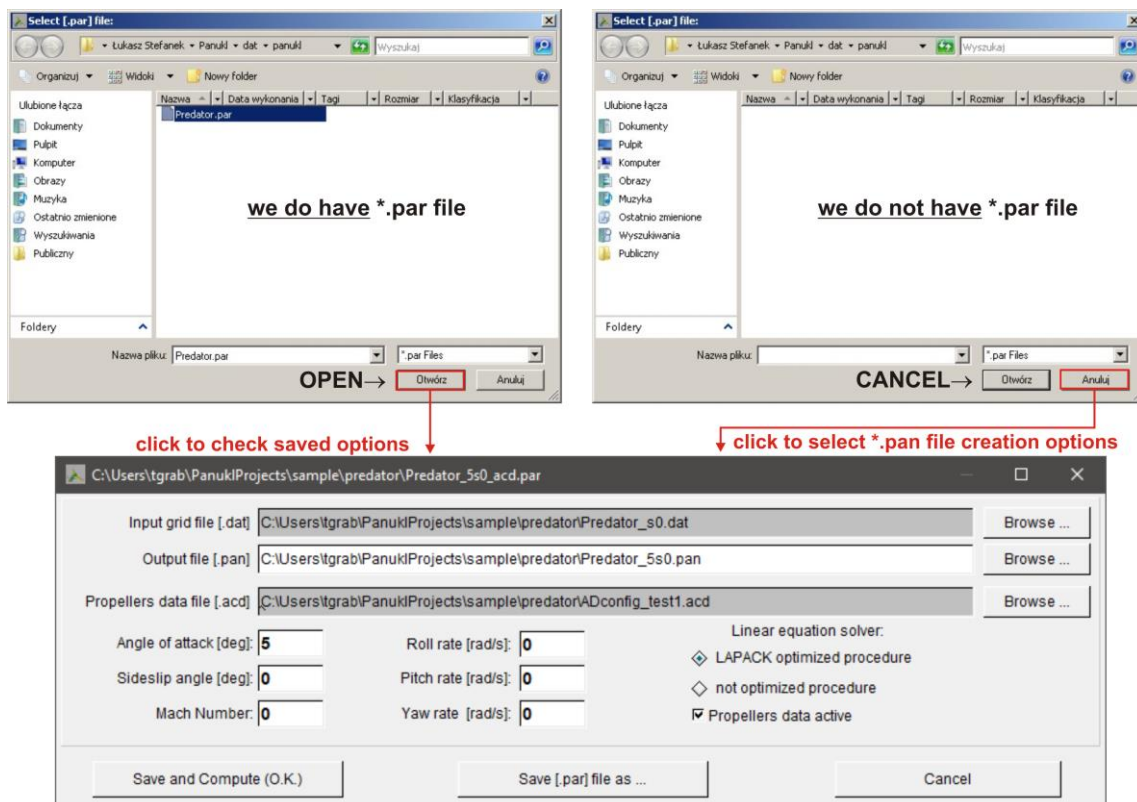

Fig. 15 – Dialog window to set parameters and to run Panukl program
### Option No. 1 – we do have saved on disk configuration file [.par], Fig. 15
Run **Compute doublet distribution** and select saved configuration file [.par] – file contains all necessary information to create [.pan] file. To open selected [.par] file click **OPEN** button. Configuration window will appear (Fig. 15) where one can see saved [.pan] file creation options. To generate [.pan] file click **Save and Compute (OK)** button.
### Option No. 2 – we do not have saved on disk configuration file [.par], Fig. 15
Run **Compute doublet distribution** and click **CANCEL** button when prompted for saved configuration file [.par]. The configuration window will appear (Fig. 15) where user can select options to create [.pan] file. To save current [.pan] options to [.par] file click **Save [.par] file as**, to create [.pan] file click **Save and Compute (OK)** button.